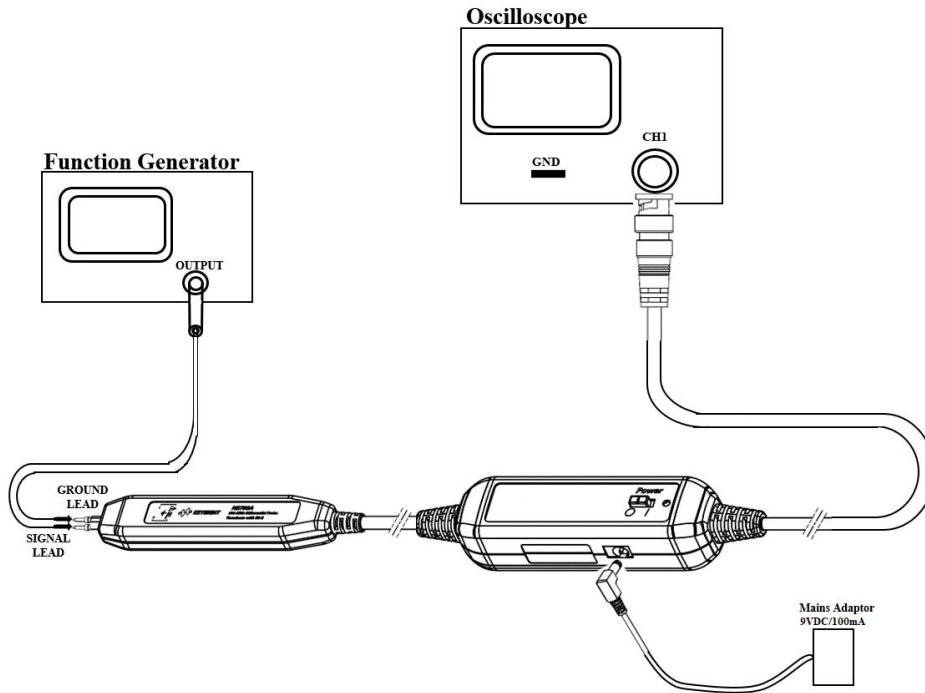

Fig. 7
- E-1. Connect the probe as shown in Fig. 7.